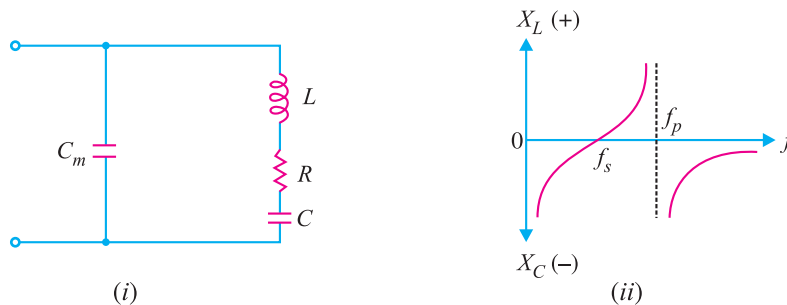

Fig. 14.22
When the crystal is vibrating, its equivalent electrical circuit is as shown in Fig. 14.22 (i). The capacitance values of C and C_m are relatively low (less than 1 pF for C and 4–40 pF for C_m). Note that the value of C is much lower than that of C_m .
- (i) At low frequencies, the impedance of the crystal is controlled by extremely high values of X_{C_m} and X_C . In other words, at low frequencies, the impedance of the network is high and capacitive as shown in Fig. 14.22 (ii).